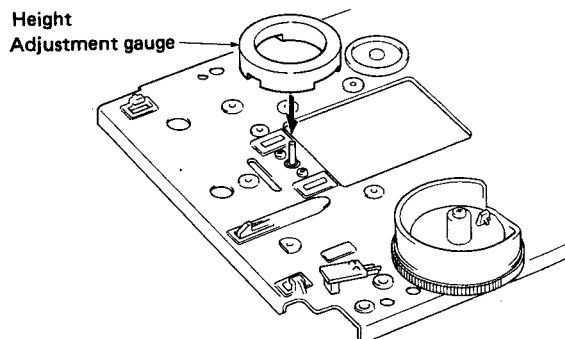

Fig. 7
- a. Install the height adjustment gauge as shown in Fig.7.